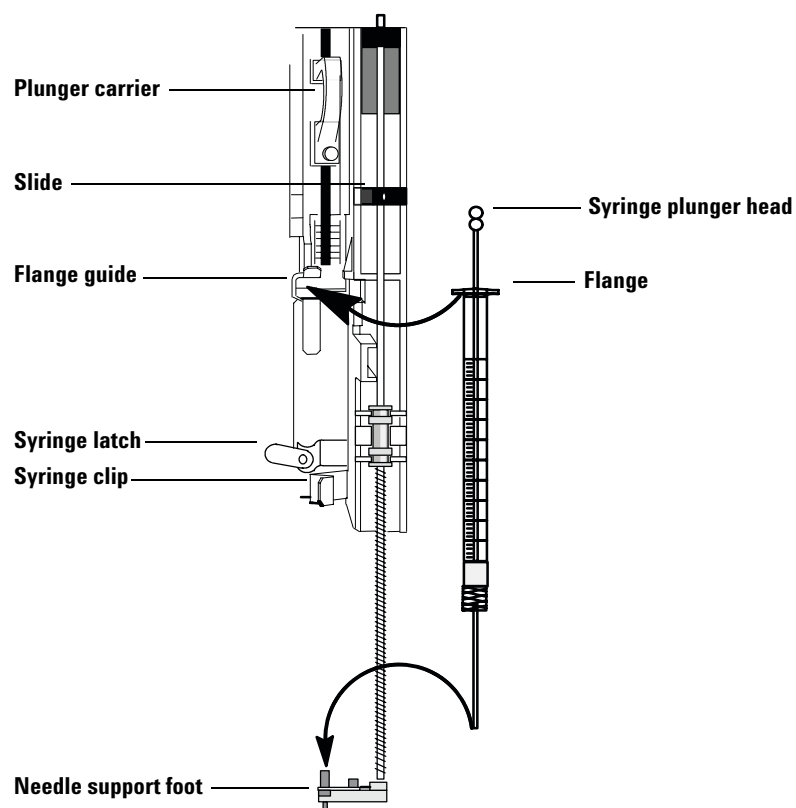

Figure 11 Installing the syringe
- 5 Align the syringe flange with the flange guide and syringe clip. Gently press the syringe into place, keeping the needle in the hole of the needle guide. Be careful not to bend the needle during this step (Figure 11).